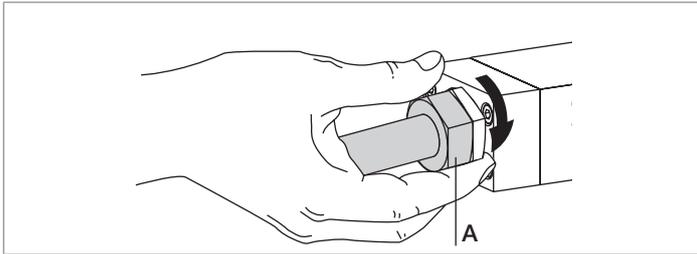

Fig. 14: Nut screwed by hand
- Insert the pipe in the compression-fitting body and tighten the nut [A] by hand. See Fig. 14.